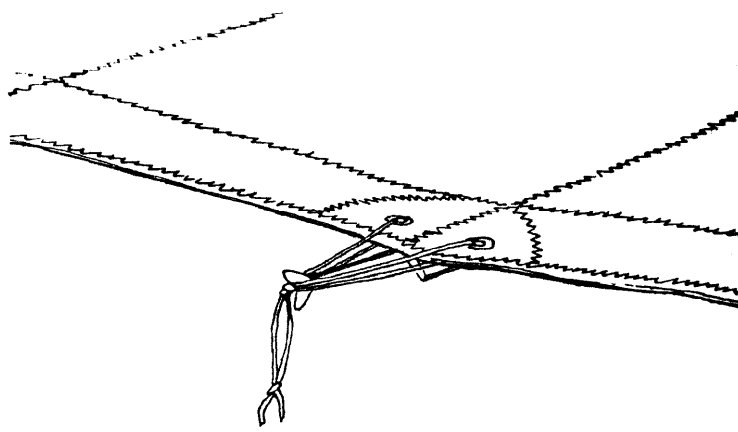

Fig.13
2.2.9. Secure the rear end of each top surface batten by first looping the bottom loop of leech line around the notched batten end, and then attaching the top loop using the extra loop as a handle (Fig.13). When attaching the leech line loops to the battens to which the reflex wires come, be sure the leech line loops are not caught underneath or wrapped around the reflex wires.